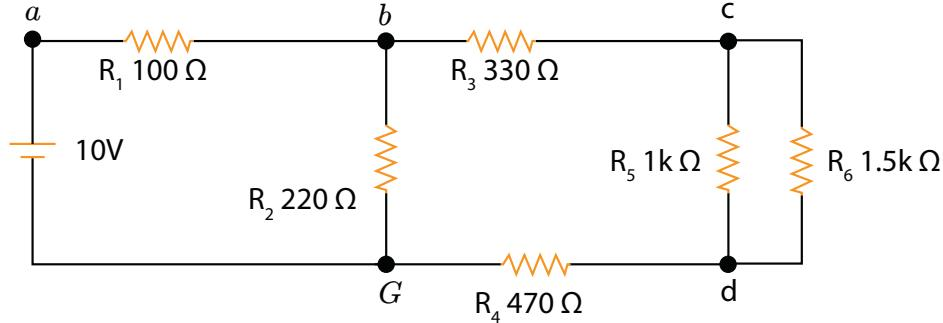

Figure 4.3.1: The resistive circuit for Experiment 4.
1. Consider the circuit of Figure 4.3.1.